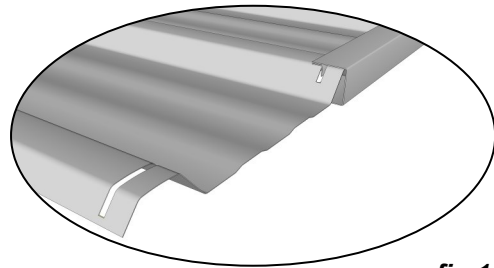

fig.1
- Slide door top and bottom channels on each end as shown in **fig. 1**